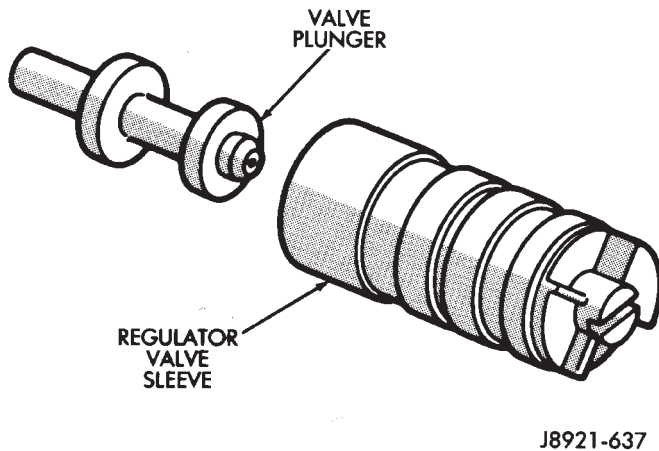

Fig. 7 Removing/Installing Regulator Valve Plunger
(8) Remove regulator valve plunger from sleeve (Fig. 7).
(6) Install primary regulator valve plunger in valve sleeve (Fig. 7).
(7) Install valve spring and regulator valve sleeve and plunger.